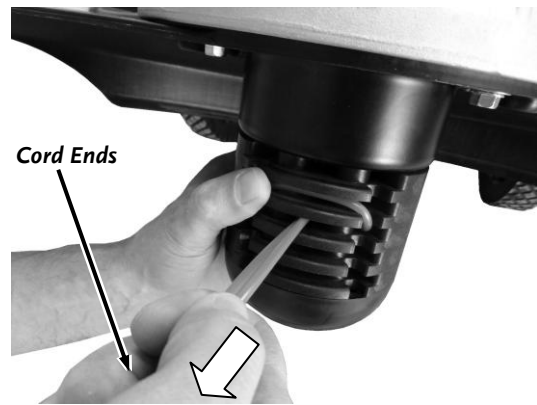

Figure 13
3. Pull the ends of the Cord under the loop and push the loop up into the Line Plate groove above them (**Figure 13**) and then pull the ends tight.